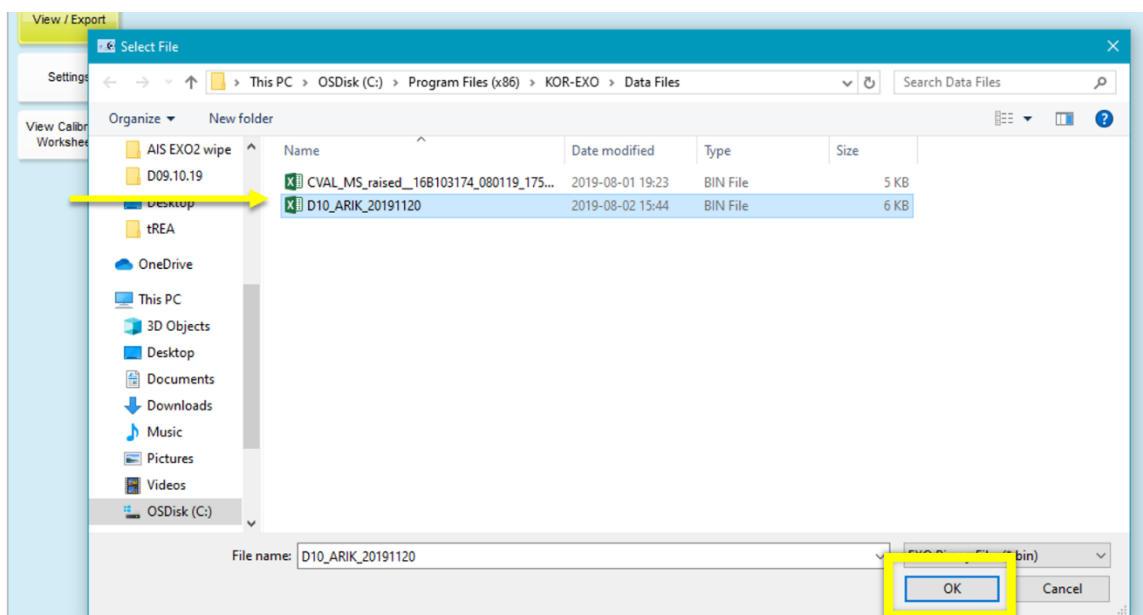

Figure 15. Select File to Download
4. In the **Select File** window, click on the file created when the logging was initially enabled (see Section 4.3) and then click "OK" (Figure 15).